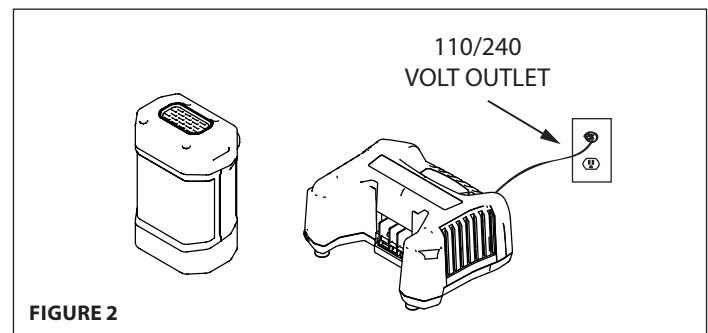

FIGURE 2
1. Connect the charger to standard 110 or 240-volt outlet; a red light should appear on the charger. Always connect charger to standard 110 or 240-volt wall outlet before inserting battery. **SEE FIGURE 2**